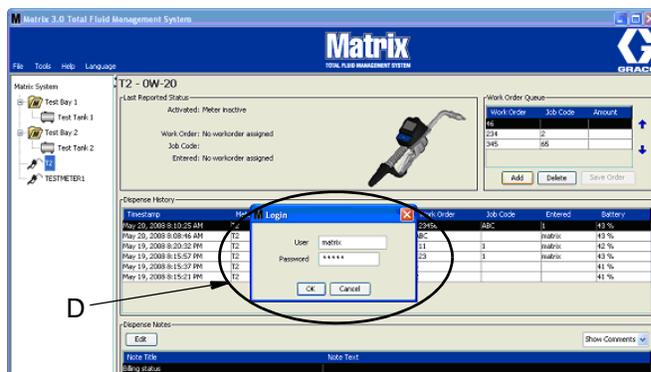

FIG. 243
3. In the pop-up box (D) (FIG. 243) type in your user name and password. Click OK.